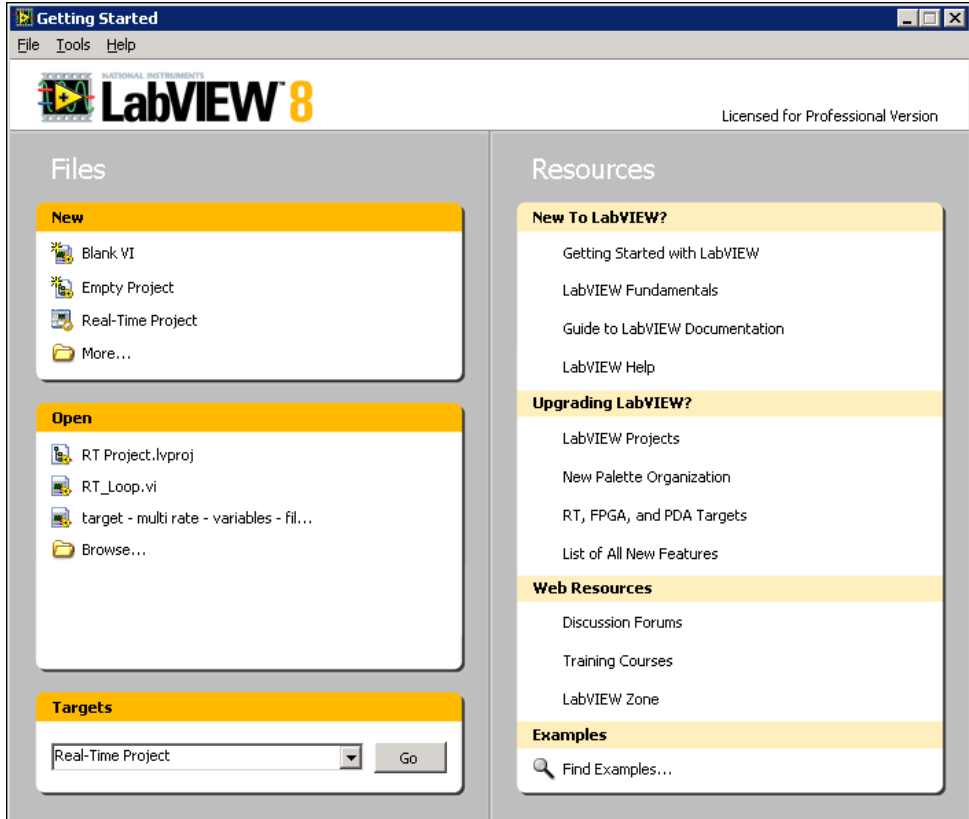

Figure 3. Getting Started Window
1. Launch LabVIEW to display the **Getting Started** window shown in Figure 3.